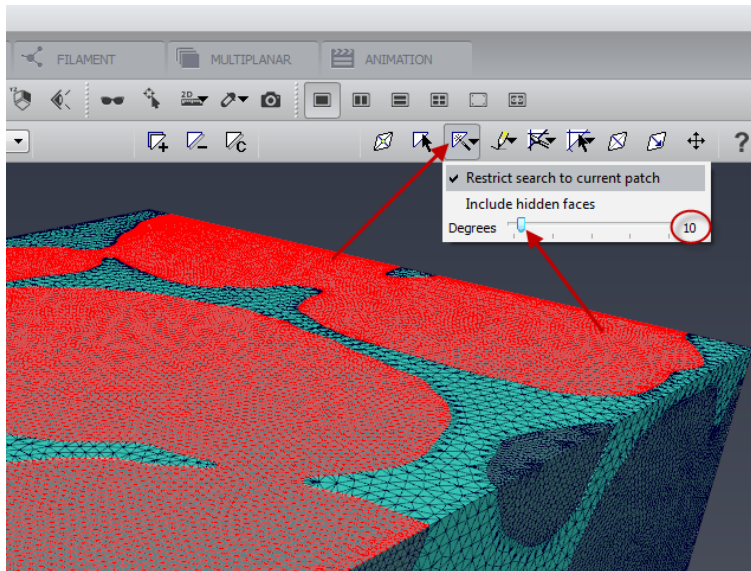

Figure 5.32: Using the *Magic Wand* to select a patch of coplanar triangles.
- Set the *Degrees* parameter to a value small enough, such as 10 (see Figure 5.32).